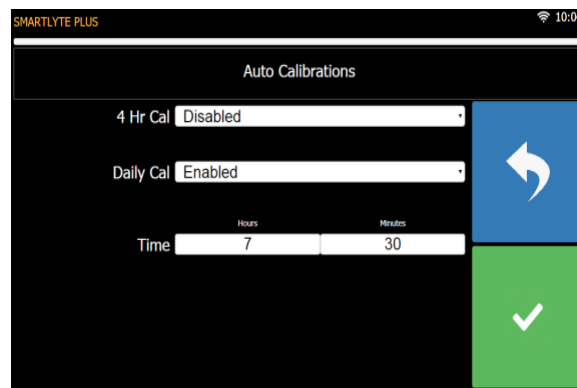

Figure 1-64 Auto Calibration Setting
- Once entries are complete, press  to save changes. (Figure 1-64)